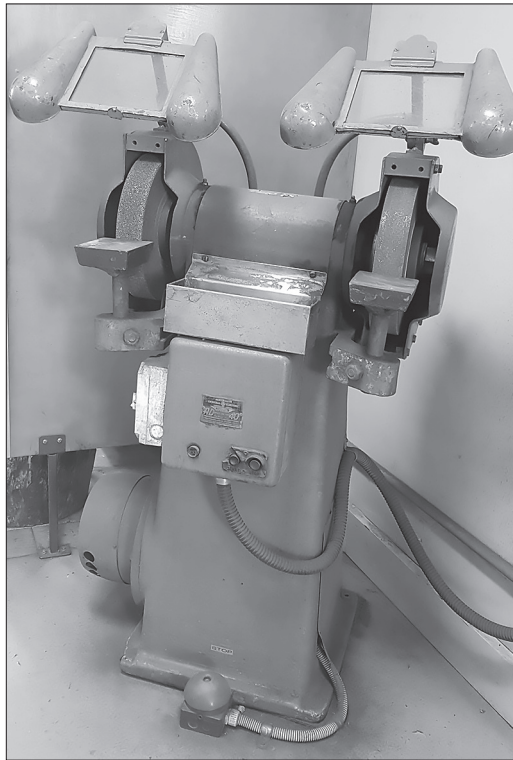

Figure 3
A chisel will be sharpened using the equipment shown in Figure 3.
- a. What is the name of the equipment shown in Figure 3?
- b. List two safety checks that need to be conducted on the equipment shown in Figure 3 before turning it on and using it.